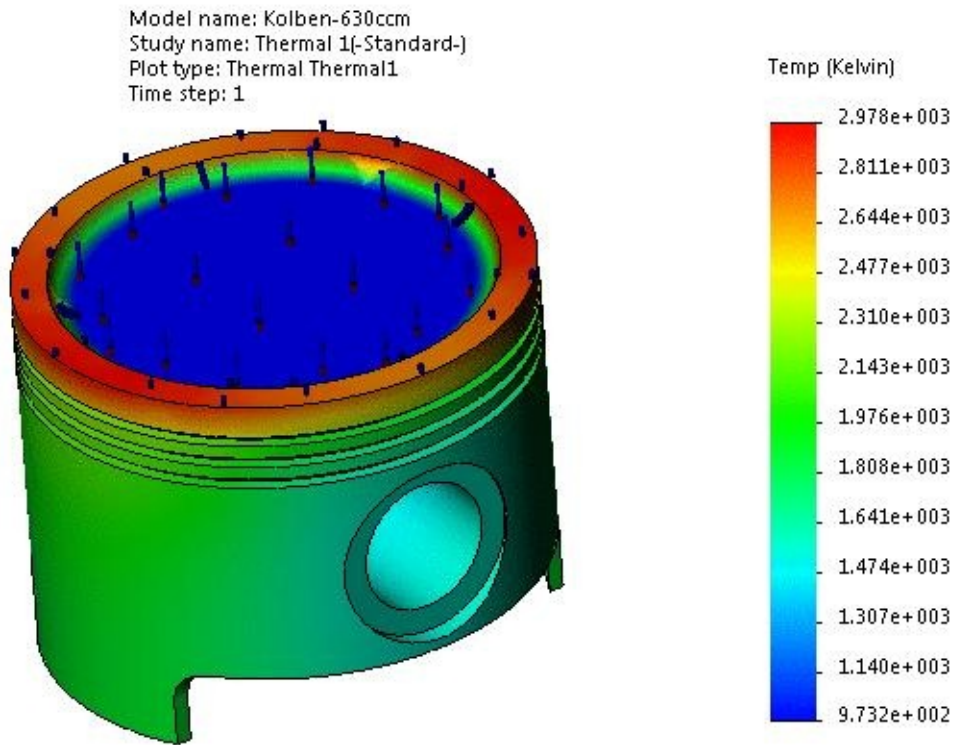

Figure-18. Solution of analysis
- After the analysis is complete. The solution of the analysis will be displayed; refer to Figure-18.